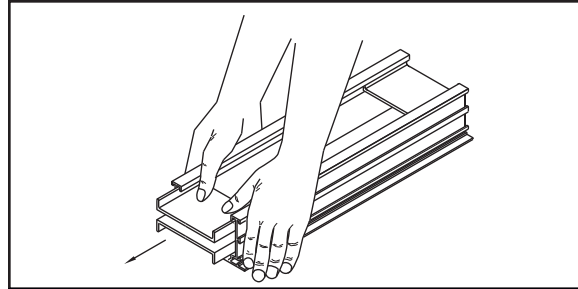

Figure 16. Diffuser Spacer Removal
- Slide the top Spacer sufficiently to allow for removal of the Pattern Controller(s) as shown in Figure 16.